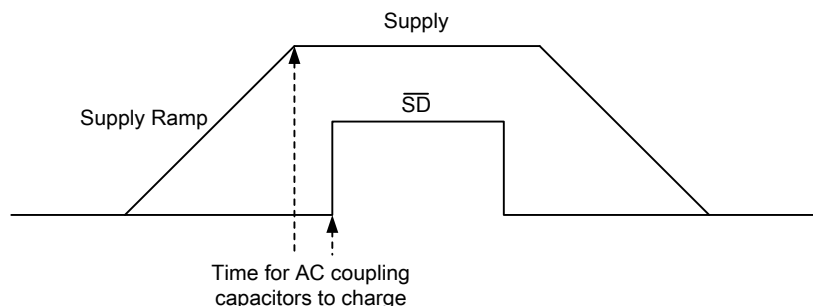

Figure 5. Power-Up Sequence
Pop-free power-up is ensured by keeping the \overline{SD} (EN) (shutdown pin) low during power supply ramp up and down. The EN pin should be kept low until the input AC coupling capacitors are fully charged before asserting the EN pin high. This way proper precharge of the AC coupling is performed, and pop-free power-up is achieved. Figure 5 illustrates the preferred sequence.